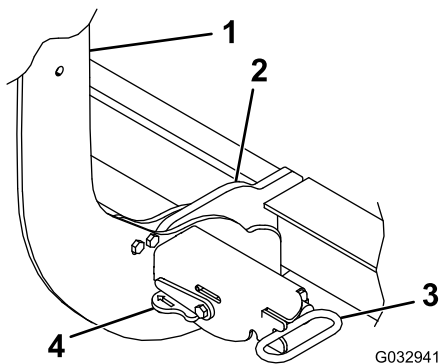

Figure 18
3. Turn the levers on the couplers to the ON position (Figure 18).
6. Ensure that both coupler spring pins have fully engaged the coupler (Figure 18).